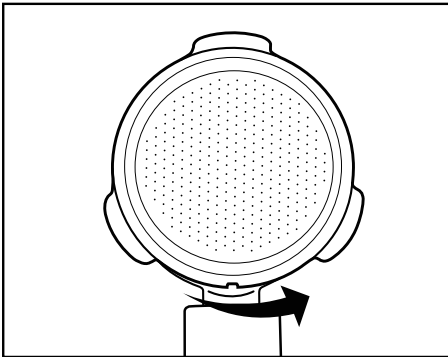

Figure 3
- Then turn the large **19** or small espresso sieve **20** slightly to ensure it cannot fall out (Figure 3).